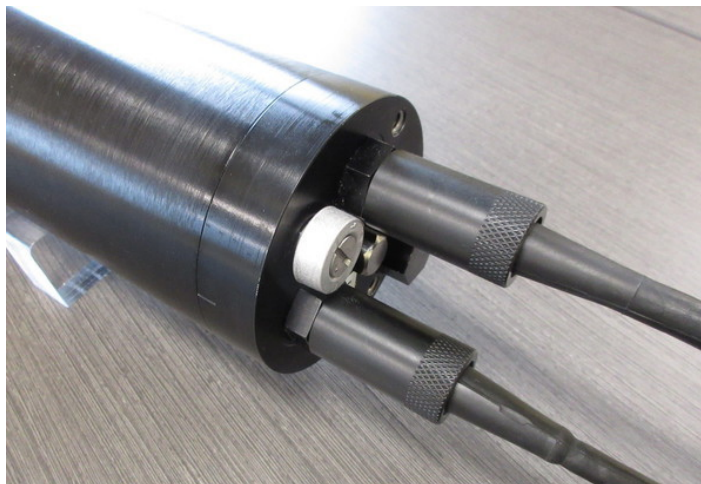

Figure 31: Connecting the deck cable to the instrument
1. Connect the deck cable to the instrument by connecting the two underwater connectors (Figure 31):